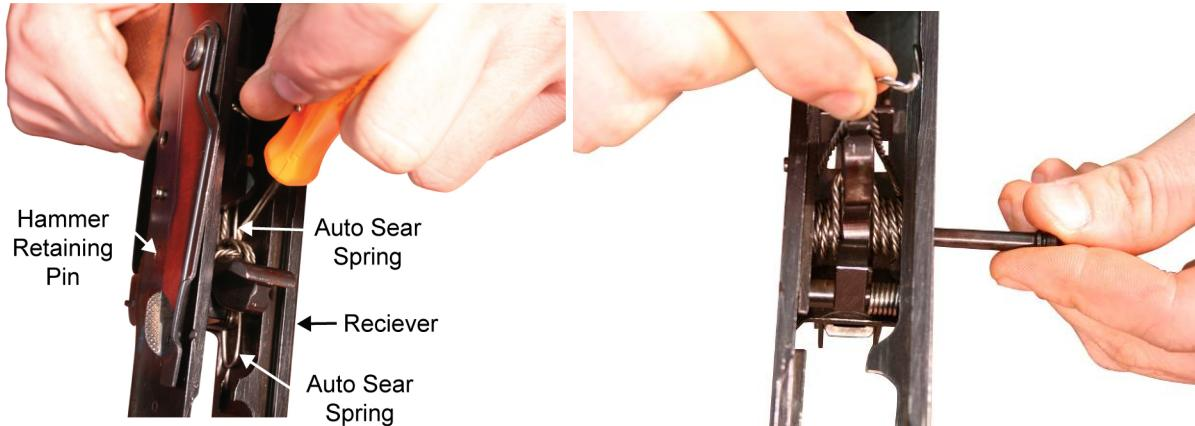

Figure 22. Pushing the Long Leg of Auto Sear Spring out of the Groove in the Hammer Retaining Pin and Removing the Hammer Retaining Pin.
i. Using a punch or flat head screwdriver, apply downward pressure on the auto sear spring to push the long leg of the auto sear spring out of the retaining groove in the hammer retaining pin. Using a punch, push the hammer pin from the right side of the receiver and remove the pin from the left side of the receiver. Refer to Figure 22.